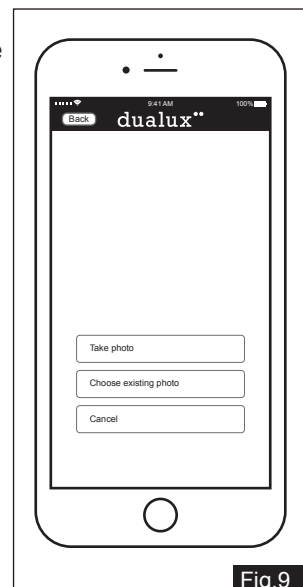

Fig.9
3. The sensor detects movement across a detection range of 240 degrees. (See Fig.9)
10. Click fig.9 "Change existing photo" to choose a desired image on your device. Then click "Cancel" back to "Setting" menu list.